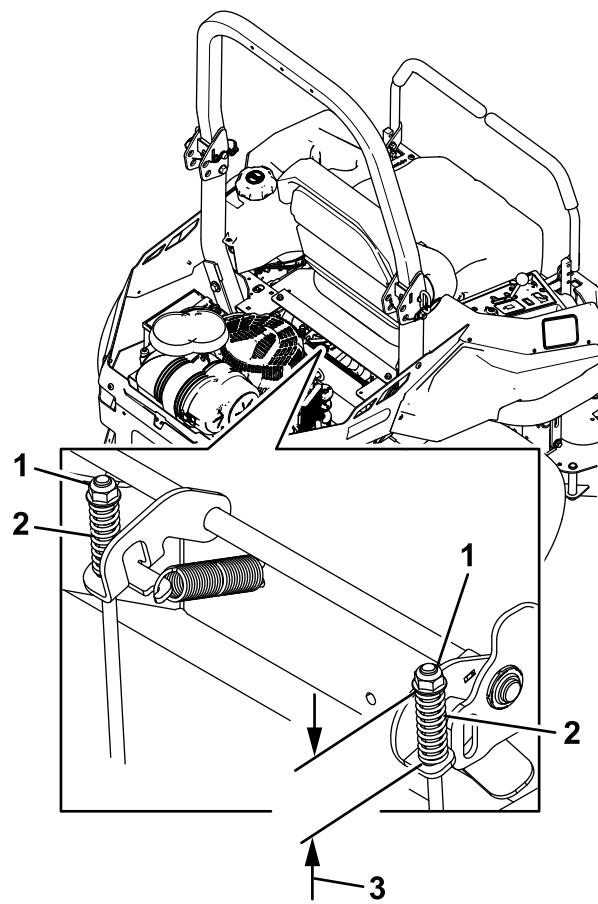

Figure 63
7. Check both spring lengths as shown in Figure 63. If an adjustment is necessary, turn the top nut clockwise to shorten the spring and counterclockwise to lengthen it.